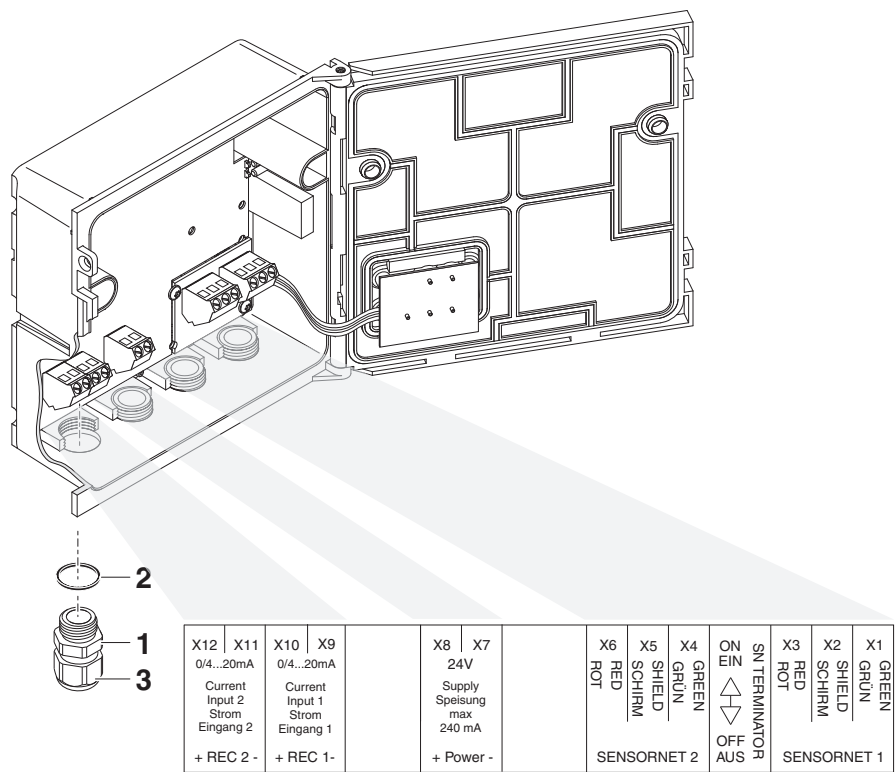

Fig. 3-1 Terminal strip MIQ/IC2
3	Screw the cable gland (pos. 1 in Fig. 3-1) with the sealing ring (pos. 2) into the module housing.
4	Loosen the coupling ring (pos. 3 in Fig. 3-1).
7	Tighten the coupling ring (pos. 3 in Fig. 3-1).